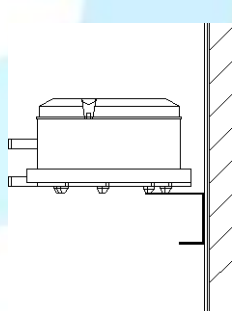

Fig. 2
- Can be installed horizontally when the environment does not have any condensing. In this way, Fig. 2 is recommended. The cover is upward and the switch value should plus about 20pa.